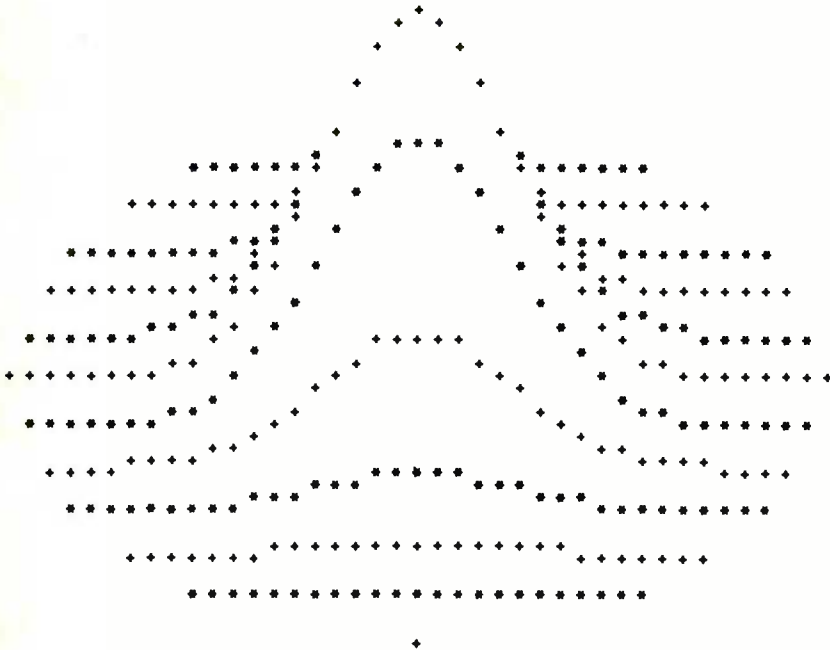
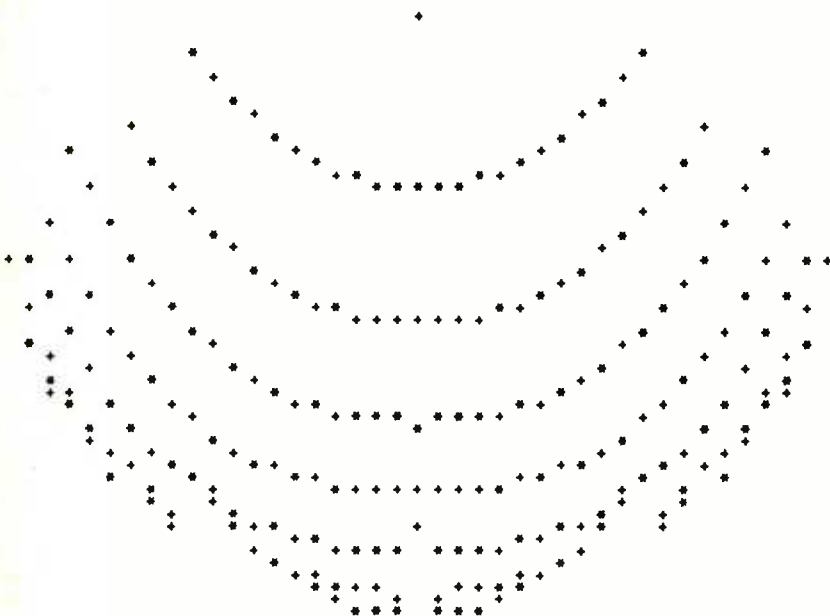

Figure 1: Plot of  $Z = -30 * EXP(-f(x,y)^2 / 100)$
Figure 2: Plot of  $Z = .001 * (f(x,y)^3 + f(x,y) - 25)$
To change the plotted equation, redefine function A (called FNA in the program) in line 60. Figure 1 shows the plot of the equation given in the program. Figures 2, 3, and 4 show different functions and their corresponding plots. Note that all figures have been rotated left by 90 degrees from the way they are actually printed. ■
Figure 1: Interface circuitry for GRAPH. An astable multivibrator (IC2) provides the pulse train for a hardware repeat function. The authors' keyboard produces a low to high transition strobe (STB) pulse when a key is pressed. This is used to trigger a monostable multivibrator to provide a single pulse keypressed (KP) signal to interface with the IO board used.
The circuit in figure 1 uses a 555 timer (IC2) to generate the repeat pulse train and apply it to the keypressed line. Notice that it is important to gate the pulse train with the original keypressed STROBE DC level from the character generator line so that the oscillator will operate only when a character key is pressed. Otherwise, invalid data will
Another handy circuit is contained in figure 1 (lower lefthand corner). Most keyboards presently available provide a low to high strobe transition to indicate a key is pressed. Many IO boards, however, require a single pulse to latch the valid data. This portion of the circuit in figure 1 converts a DC strobe level to a single pulse output.
Figure 2: Visualization of line starting and ending addresses in GRAPH. This type of information is helpful in understanding the subroutines that check for valid screen addresses. The Processor Technology VDM-1 displays 16 lines of 64 characters per line which reside in 1 K bytes of programmable memory.
Data from any register can be moved to the screen with a MOV M, X (whose X is any register) instruction. The position on the screen is determined by the 16 digit number in the H, L register pair, which in this case would be between hexadecimal CC00 (first screen position) and CFFF (last screen position). Allocations of the starting and ending line addresses, as well as the first invalid address on either side of the screen, are shown in figure 2.